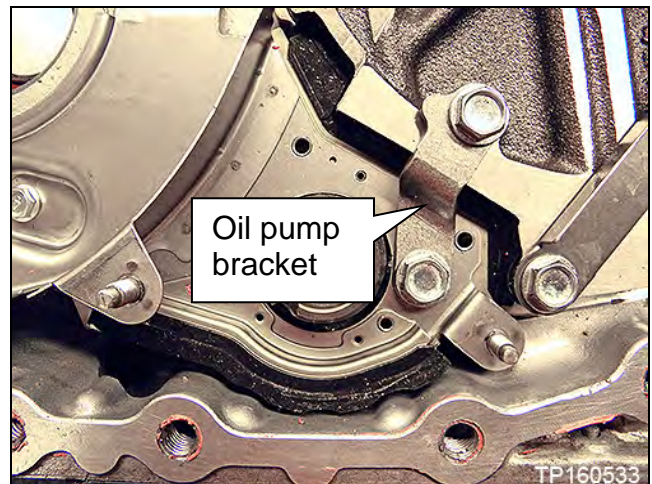

Figure 16B
- c. Oil pump bracket (Figure 16B).